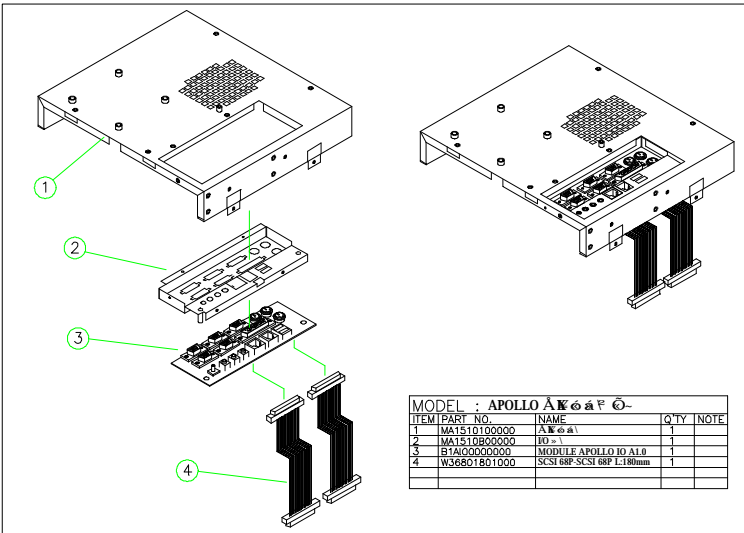

FIGURE 5-12: APOLLO BACK MODULE ASSEMBLY
2. Insert the I/O board to the I/O bracket (2) and fix them together with the 12 bronze sticks. Fix them again with 2 screws on the other side.
3. Fix the complete I/O module to the metal back panel (1) five flat-head 3*5 screws.
4. Connect one end of the 2 68-pin SCSI cables (Fig. 5-12 (4)) to the I/O board (3). Via the 2 SCSI cables, all the onboard I/O signals are converted to the I/O board for device cable connection.